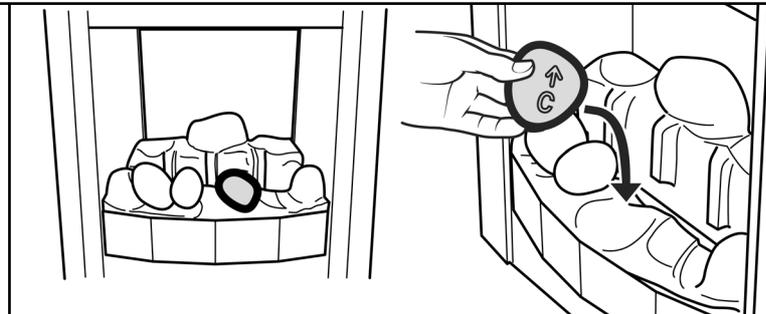

Figure 35.
6. Hold pebble 'C' upright with the arrow pointing to the top. Place pebble "C" on top of the front base pebble. It should lie against the moulded pebble to its left. (See figure 35).